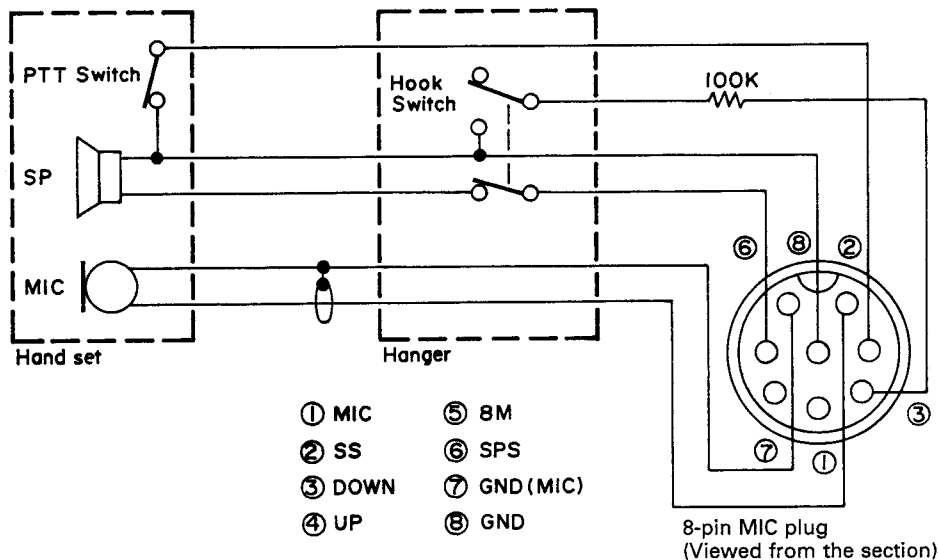
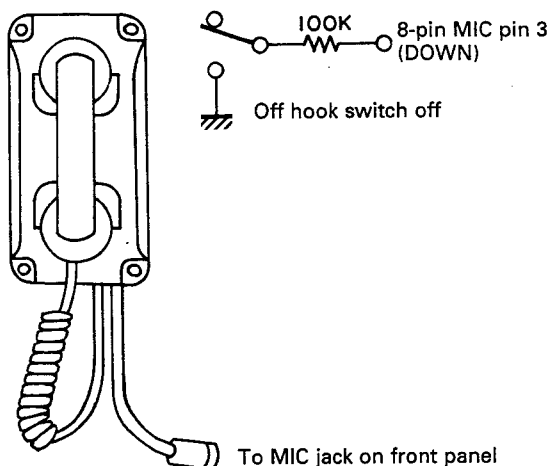

Fig. 22 Handset connection
Fig. 23 When placing handset on hanger
Connect an 8-pin MIC plug (E07-0852-15) to the handset as shown in Figure 22. Add a resistor (100 k $\Omega$ ) in series to pin 3 (DOWN line). Then, connect the resistor to the off hook switch. Now when the handset is lifted, the off hook circuit is activated. The off hook switch operation is described below. (See Figures 23 and 24.)
3. When the handset is placed on a hanger as shown in Figure 23, the received tone is heard from an internal or external speaker (the SP switch is activated). The handset speaker is cut off.